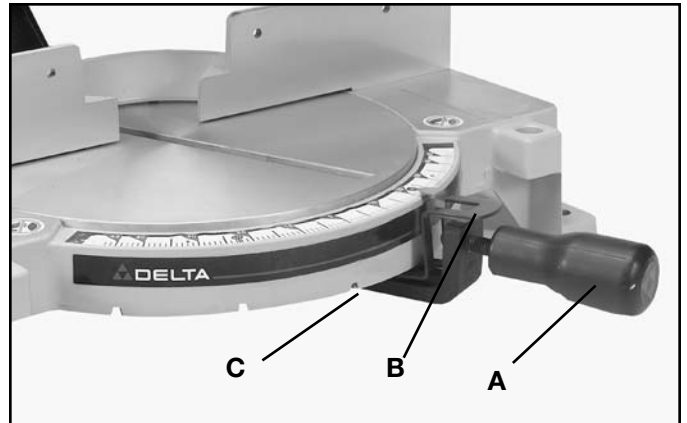

Fig. 6
1. Loosen table lock handle (A) Fig. 6, one or two turns and depress index lever (B) to release 45 degree positive stop.
2. Rotate table to the left until index stop engages with the 90 degree positive stop (C) Fig. 6. Then tighten table lock handle (A).